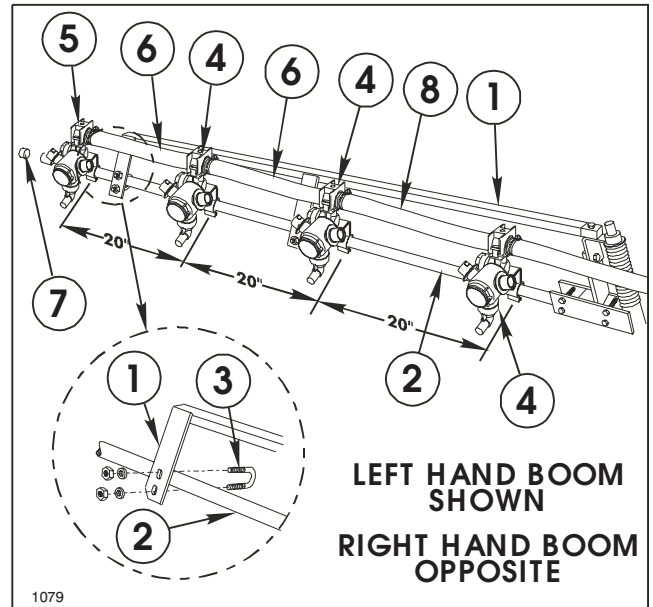

FIG. 17
24. Secure the two (2) plates of the Boom Support Assembly to the Extension Boom Pipe, using two (2) 1/4" U-Bolts, four (4) lock nuts and flat washers. (See FIG. 17)
27. Attach three (3) Double Barb Turret Bodies and one (1) Single Barb Turret Body with Clamp Assemblies on each Extension Boom Pipe as shown in FIG. 17.
28. Level Nozzles and space 20" apart. Connect the Turret Body Assemblies with 3/4" x 19" Jumper Hoses and a 3/4" x 21" Jumper Hose. Secure with hose clamps. (See FIG. 17)